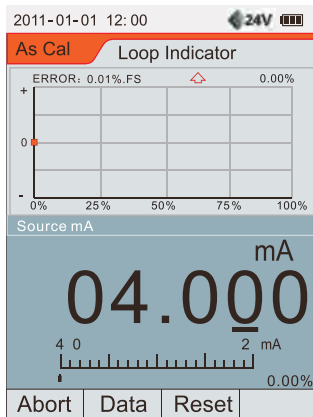

Figure 9.28 Curve display
2. Use **↑** or **↓** key to select the circuit display device options, press **F4** or **Enter/ Hold** key to enter As Cal execution interface, as shown in Figure 9.28.